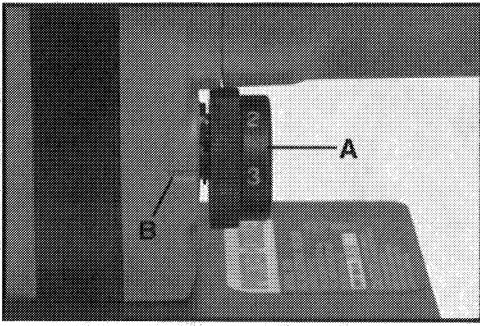

Fig. 8
The blade orbit may be varied by turning knob (A), Fig. 8, to any of four positions indicated by the numbers "0" through "3", with "0" producing no orbit and "3" producing maximum orbit. The orbit may be adjusted with or without the motor running. Turn knob (A), Fig. 8, to align the number producing the desired orbit with the index mark (B), Fig. 8. Metal cutting should be performed in orbit setting "0".